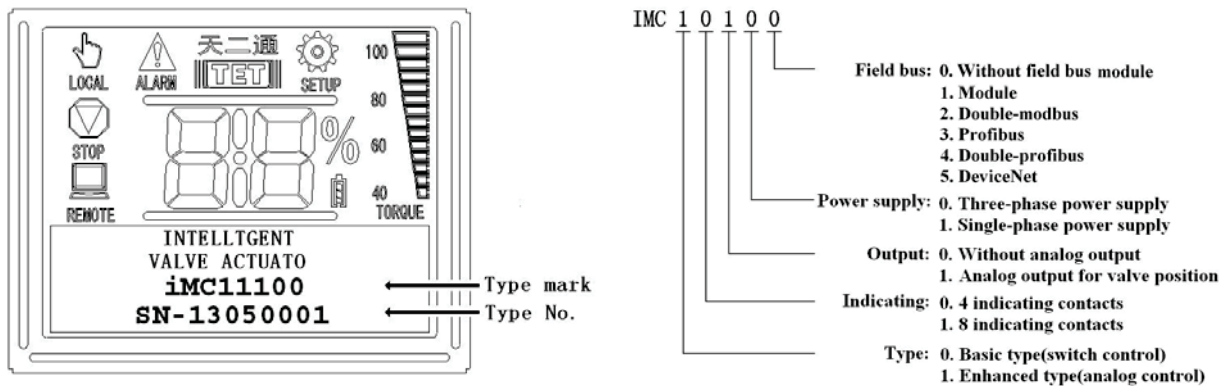

Fig.5
2.1 Instruction for start-up status (Fig.5)